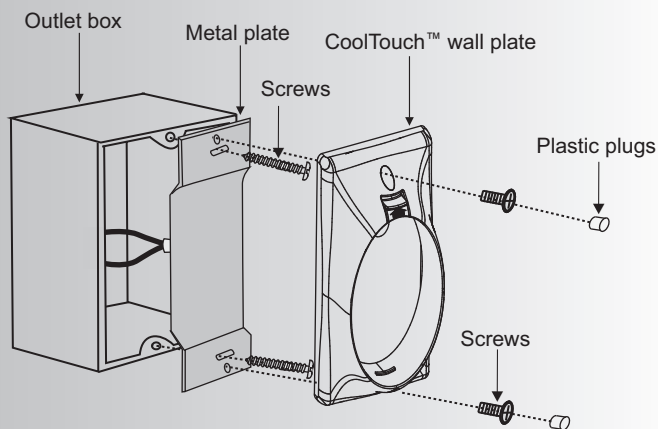

Fig. 27
Step 2. Install the metal plate and CoolTouch™ wall plate to the existing wall outlet box with 4 screws provided. Then place the two plastic plugs into the wall plate. (Fig. 27)